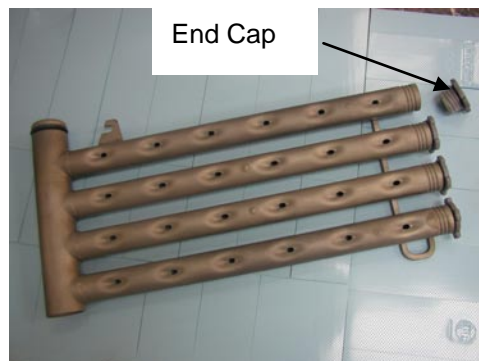

Fig.21
5. Remove wash arms(Fig.21). Thoroughly flush the wash arm in a sink and replace the wash arm end caps (a twisting action helps ensure proper seating).